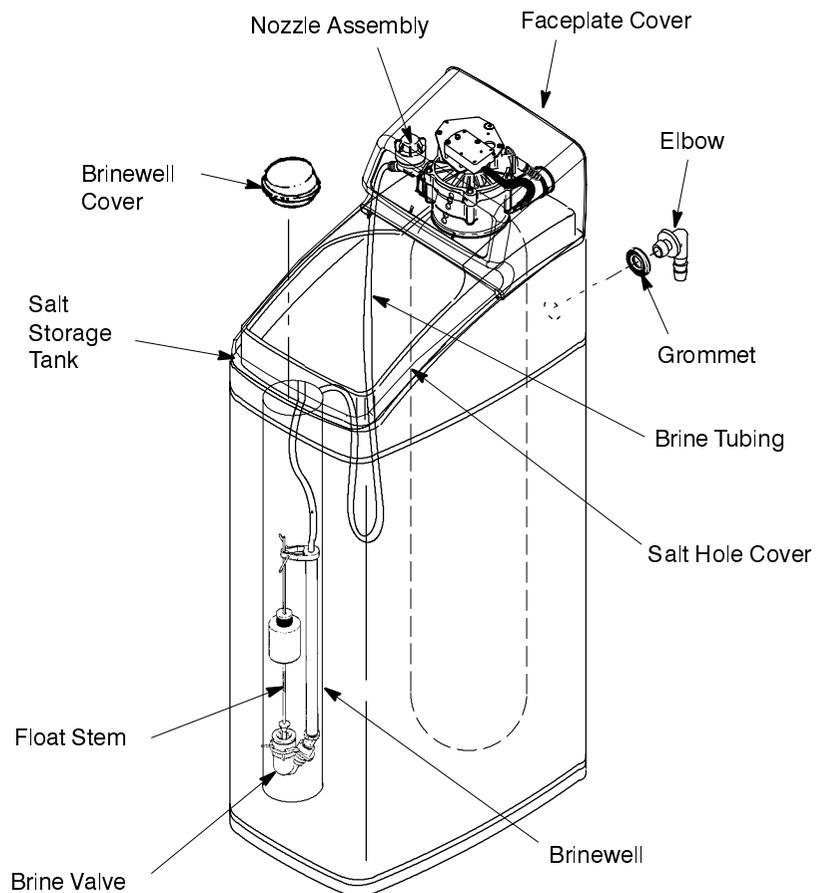

Figure 1
1. Morton™ System Saver™ models are factory assembled. During installation, remove the Salt Hole Cover. Set aside to prevent damage. Check the brinewell to be sure it is secured and vertical (see Figure 1). Slide Faceplate Cover forward to expose back valve assembly.